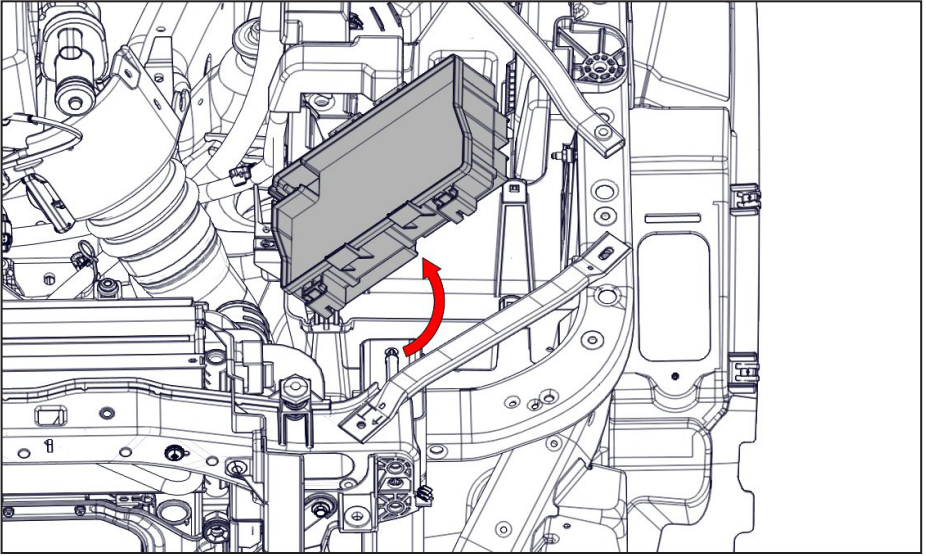

Figure 83 — Remove PDC
- ☐ Remove the PDC housing from the bracket by simultaneously squeezing the (x4) latches and pulling the PDC housing up out of the bracket (Figure 83).